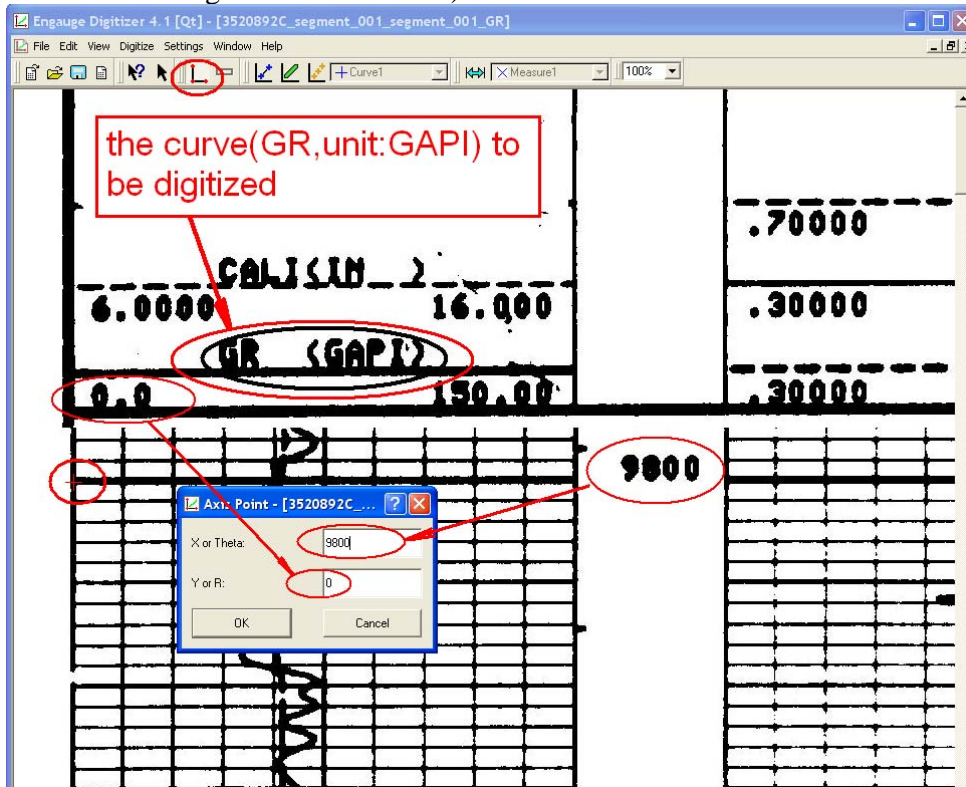

Figure 6, the first axis point (red cross) and its graph coordinates
b. Click on one of the axes to add the first axes point, then enter its graph coordinates. (Figure 6). X=9800 (X meaning ft along the downward depth; Y=0 (Y meaning the value of GR along the horizontal axis).